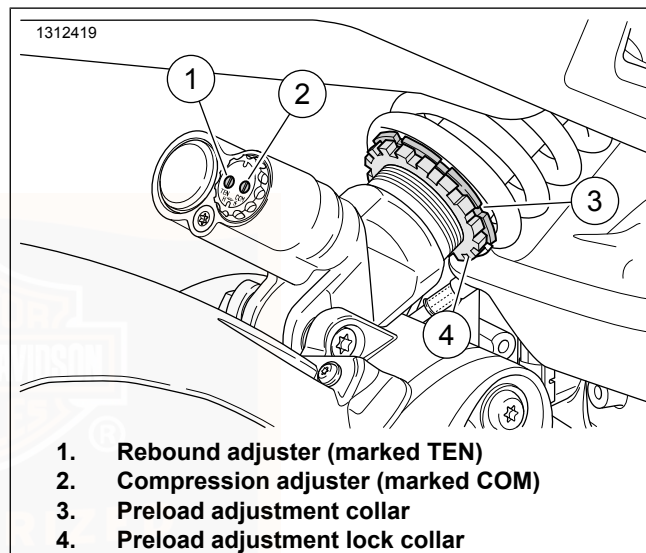
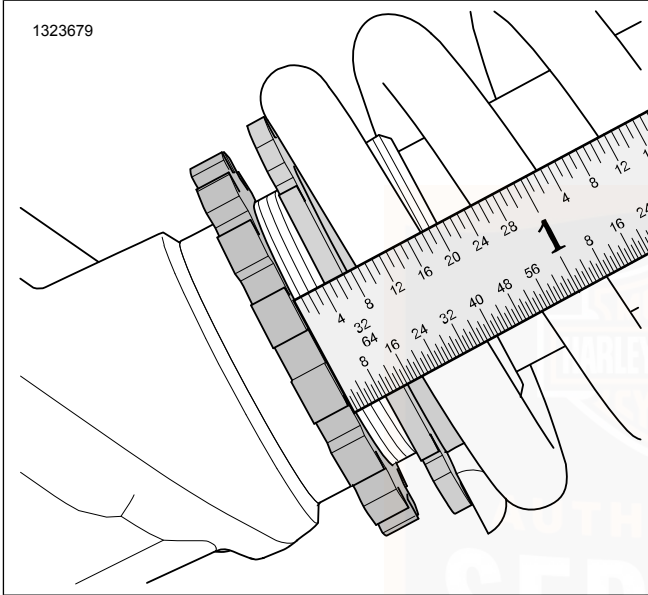

Figure 20. Rear Suspension Adjustment
Figure 21. Rear Suspension Measurement
See Figure 20. Turn rebound adjuster (1) clockwise in the H (hard) direction until it stops. This is the maximum rebound damping setting.
2. Turn rebound adjuster (1) counter-clockwise in the S (soft) direction the recommended number of turns. Refer to Table 24.
See Figure 20. Turn compression adjuster (2) clockwise in the H (hard) direction until it stops. This is the maximum compression damping setting.
2. Turn compression adjuster (2) counter-clockwise in the S (soft) direction the recommended number of turns. Refer to Table 24.
1. See Figure 20. Release the lock collar (4) on shock absorber by turning only the lock collar counter-clockwise until it stops at bottom of the threads.
3. See Figure 20 and Figure 21. Adjust preload adjustment collar to the desired position.